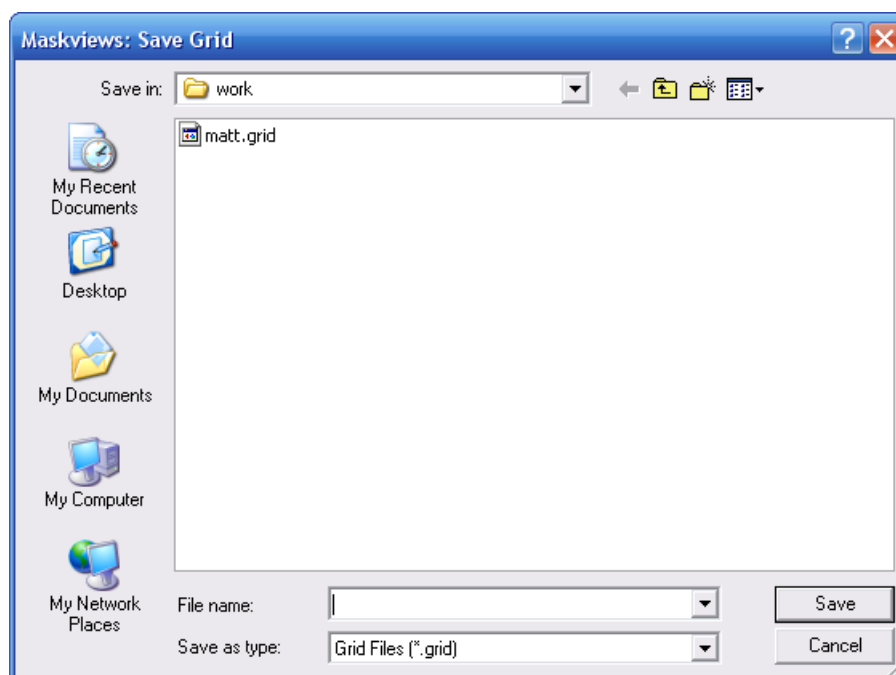

Figure 2-14: Save Grid dialog
- Selecting **File→Save Grid...** (Figure 2-14) is for saving SSUPREM4 grid template data.